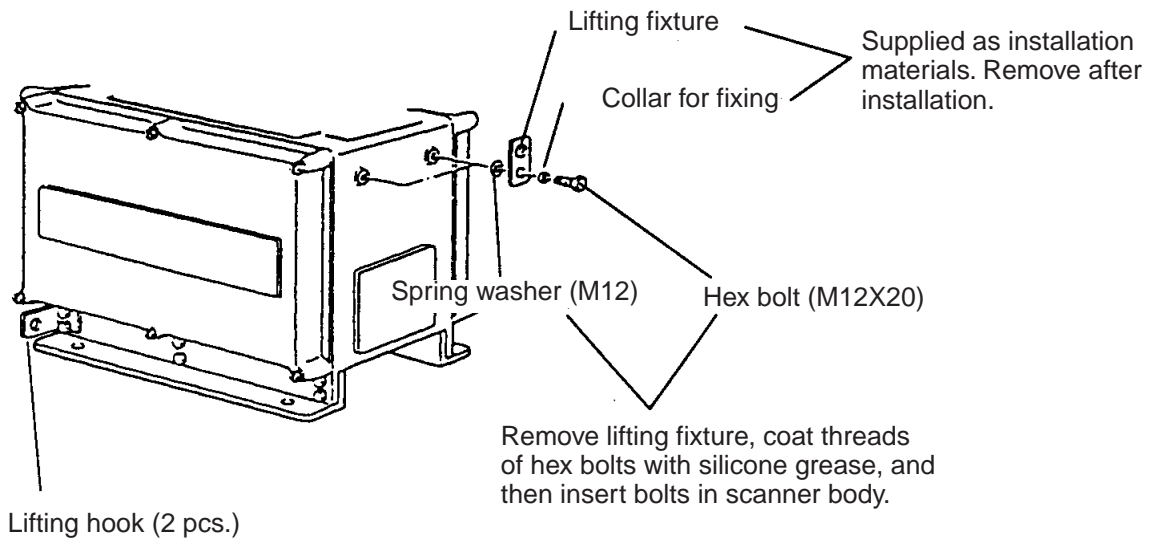

Figure 1-2 Attachment of lifting fixtures and collar
2. Attach the lifting fixtures and collars as shown in Figure 1-2 and 1-3.